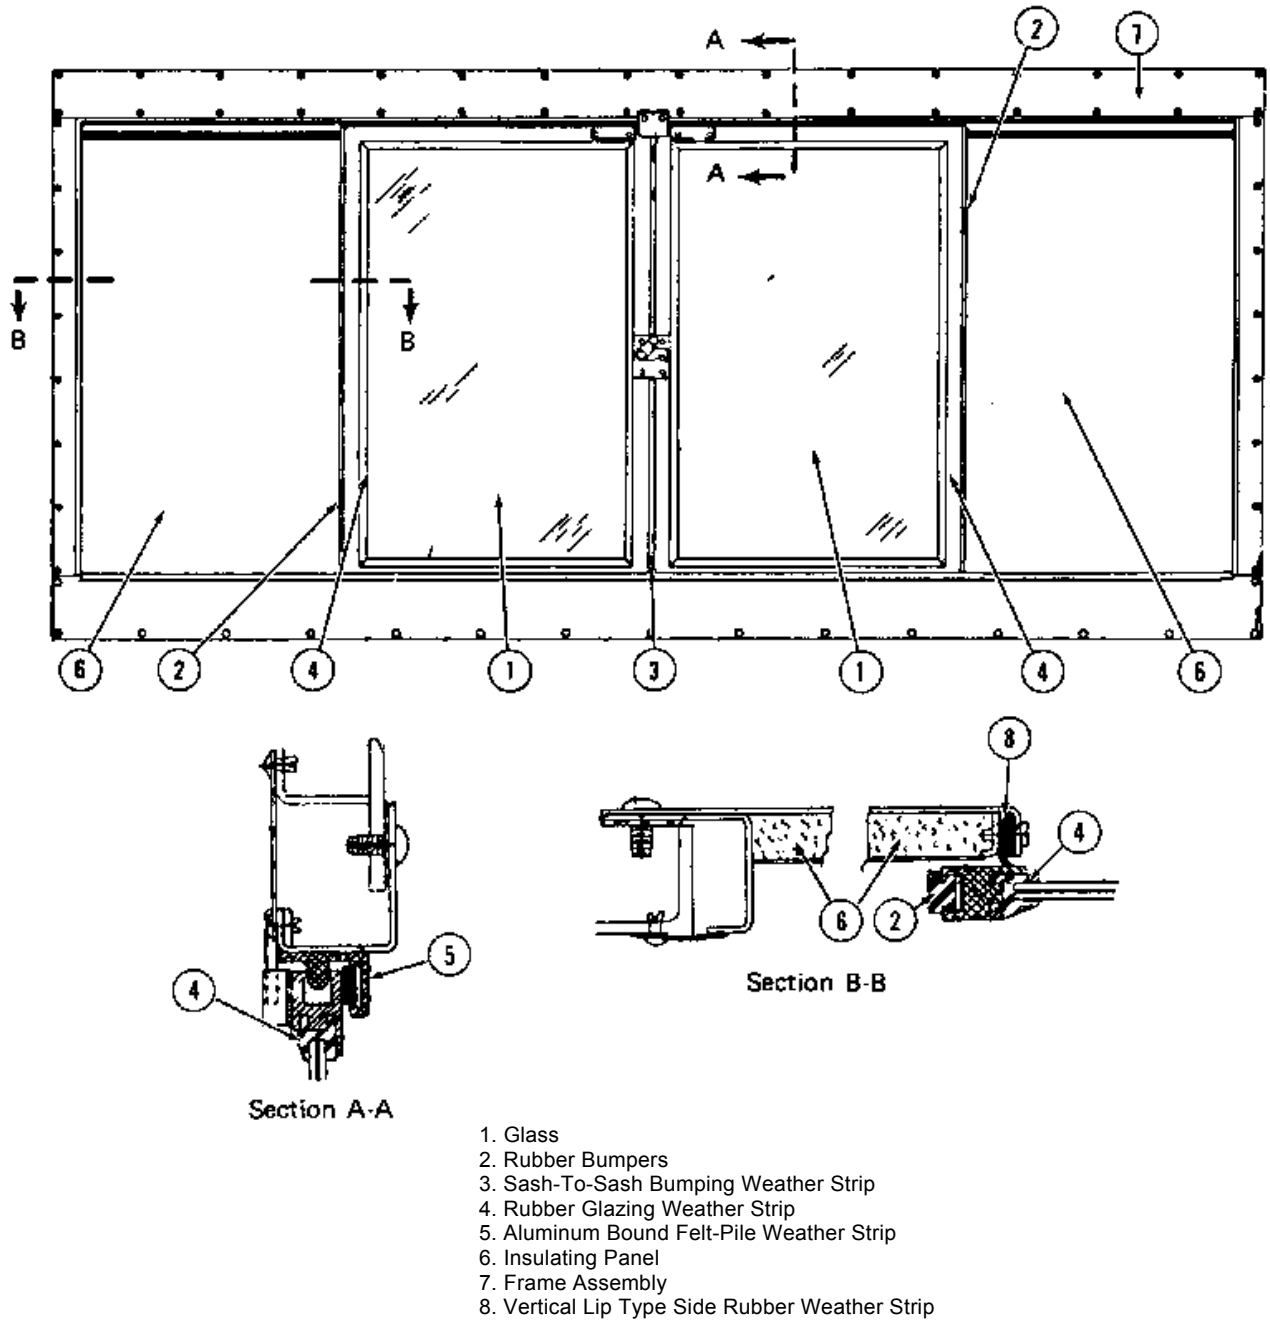

Fig. 11 - Front View Of Unitized Assembly
Cab sliding sash window assemblies require various weather strip and sealing applications, Figs. 11 and 12. (See Service Data.)
Two rubber bumpers 65 mm - 75 mm (2-1/2" - 3") long each, are inserted into the extreme right and left sliding sash channel assemblies, (2) Fig. 11. Bumpers are designed to tightly fit into sash channel, Fig. 14. These bumpers are positioned approximately 127 mm (5") from the top and bottom frame edges to equally absorb shock when windows are slid wide open. The aluminum sash assemblies are crimped at the bumper edges to ensure stationary position.
Sash-to-sash rubber bumping weather strip, Fig. 15, is designed to be inserted into sash assembly channel. This weather strip is installed only on sash assembly side having latch assembly application, (3) Fig. 11. A bead of rubber putty compound or rubber adhesive is used at the top of sash channel to initially secure weather strip and facilitate insertion into channel.
Vertical lip type side rubber weather strip (8) Fig. 11, is trimmed to necessary length, and installed into the side frame of the insulating panel, Fig. 11, View B-B. Perform the following procedure:
Four strips of rubber glazing weather strip, (4) Fig. 11, are applied to each sliding sash before the glass is installed. The glazing strip application is a multi-step procedure as follows:
Aluminum bound felt-pile weather strip, (5) Fig. 11, is used along the entire length of top sash track. To gain access to the weather strip, it is necessary to perform the following procedure: